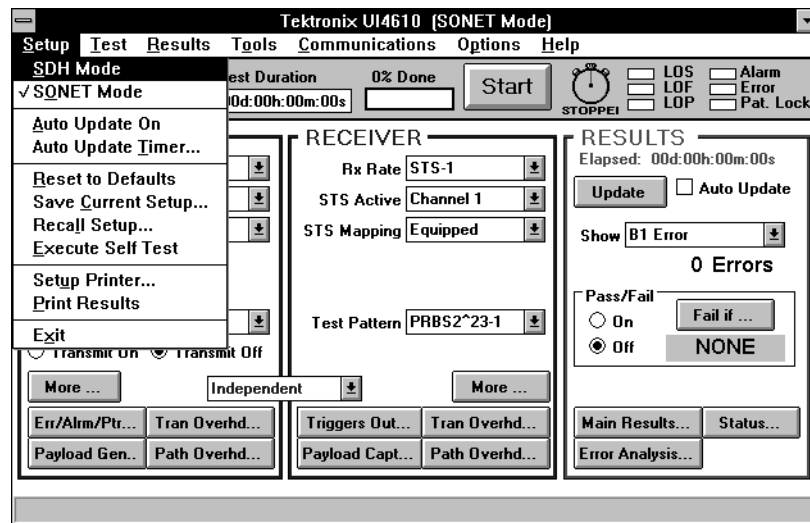

Figure 1–6: Selecting the SDH or SONET Mode
To set the operating mode, pull down the **Setup** menu (see Figure 1–6). Select either **SDH Mode** or **SONET Mode**. Once set, the terminology and content of all windows reflects the standard you have chosen. Your choice of operating mode remains set even when you exit the UI4610 Software or turn off the computer. You can select the other standard at any time; however, all settings are reset to the default settings when you change operating mode.
2. Verify that the READY light on the VX4610 front panel is on. This indicates that the VX4610 has passed its power-on diagnostics. See Figure 1–7 for the location of the READY light.
6. Verify that the **LOS** and **Pat. Lock** status lights in the control and indicator bar are red. See Figure 1–8 for the location of the signal status lights.